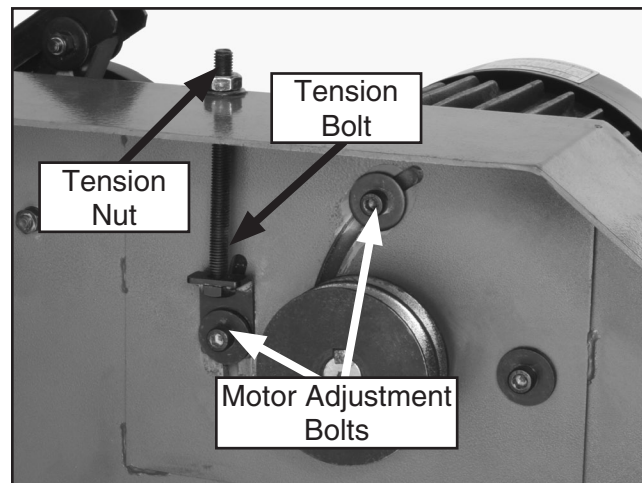

Figure 62. Motor mount bolts and tension bolt.
3. Loosen the motor adjustment bolts shown in **Figure 62**.
3. Loosen the motor adjustment bolts and tension nut shown in **Figure 62**, then turn the tension bolt counterclockwise.